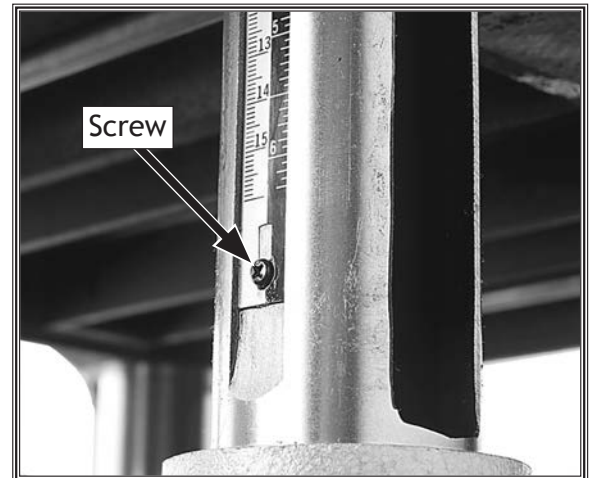

Figure 55. Location of adjustment screw for table elevation scale.
3. If there is a discrepancy between board thickness and reading on table elevation scale, loosen the screw shown in **Figure 55**, adjust scale as necessary, then re-tighten screw.